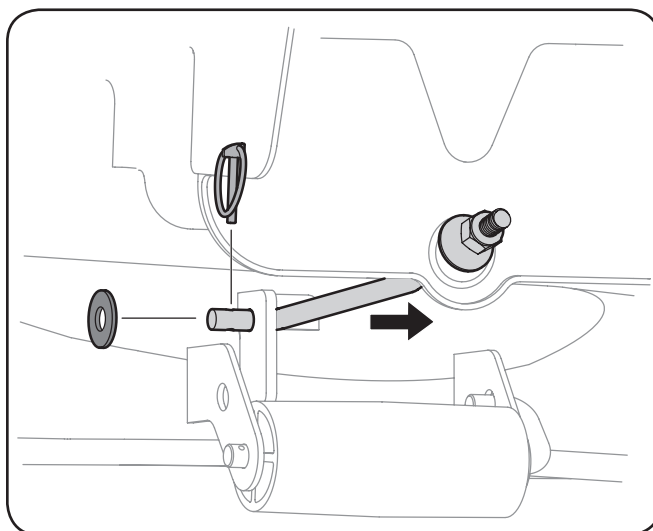

Figure 7-5
10. Remove the cotter pin and flat washer from the end of the stabilizer rod and slide the stabilizer rod out of the hanger bracket on the deck, as shown in Fig. 7-5.